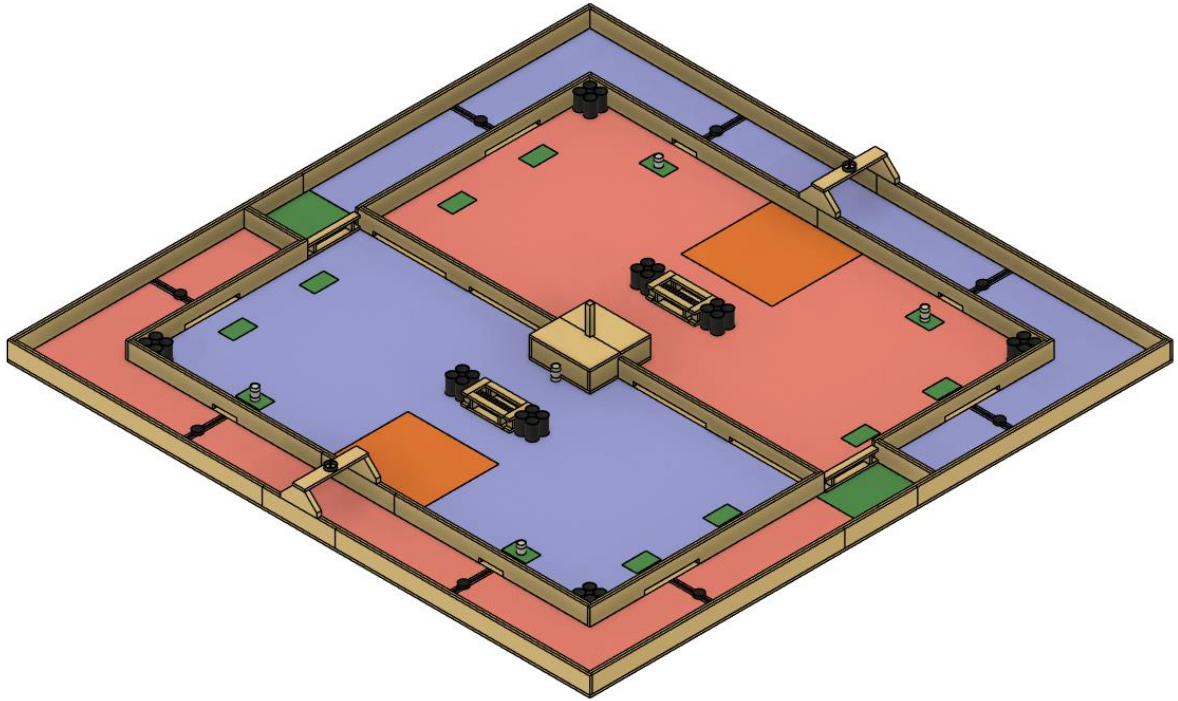

Figure 2: Overall Court
4.1.1.3. As shown in Figure 2 above, the red area is one team's exclusive play area, and the blue area is the exclusive play area for the second team.